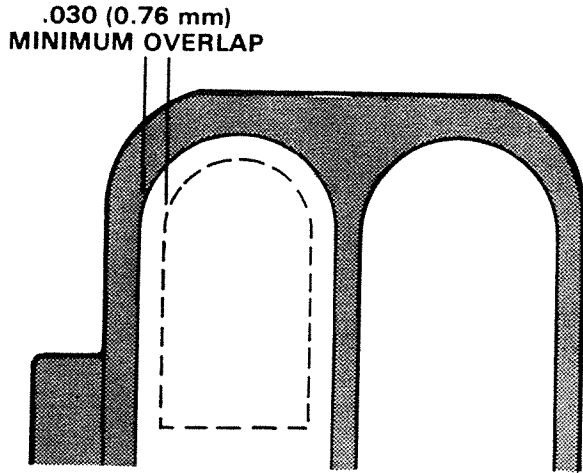

Figure 2. Measuring Reed Overlap.
2. Carefully locate reed over openings in reed plate. A minimum of .030 in. (0.76 mm) overlap is required. Figure 2.